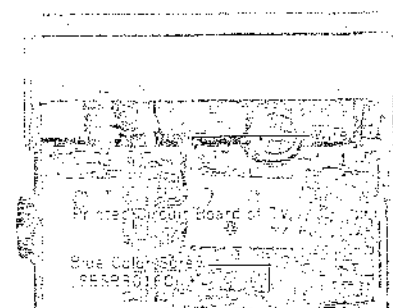

Fig. 6
3. Unfasten a blue color fastening printed circuit board indicated in Fig. 6, and disconnect the wires connected to UHF antenna terminals and the wires between printed circuit board of TV and radio (Fig. 6).